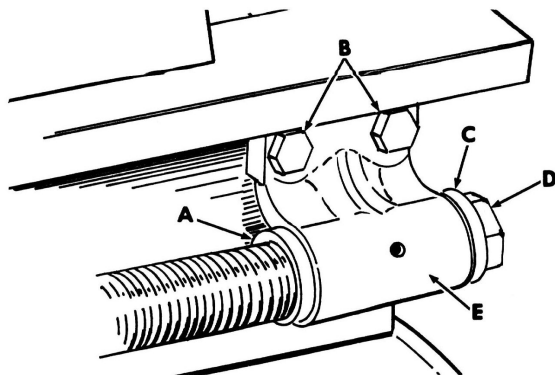

Figure 1
1. Remove nut (D, fig. 1) and collar (C) from end of lead screw.
2. Remove screws (B) from lead screw bracket (E) and slide bracket off lead screw.